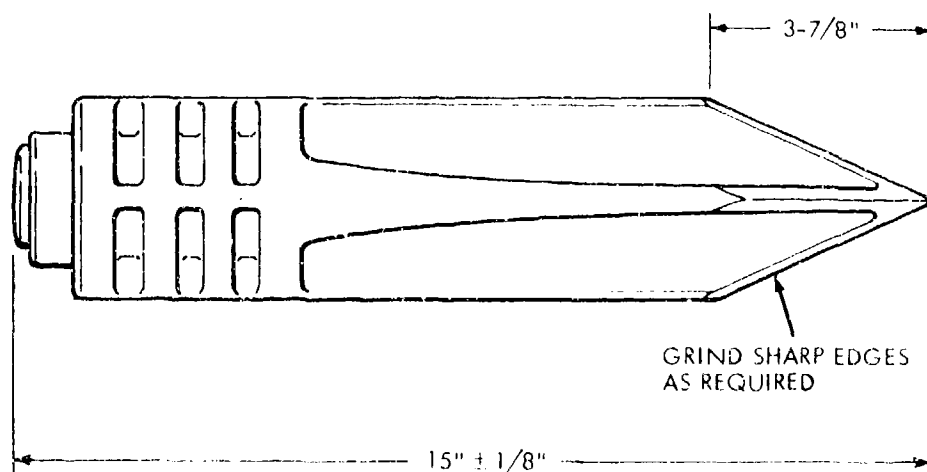

Figure 4-11. Modified (short) stake.
(1) To resolve the problem, the US Army Armament Command tested a miniature-shaped charge, known as the jet tapper, for blasting holes in rocky or frozen ground. The hole facilitates the driving of special steel forged stakes which are also programmed for issue. The jet tapper is fired by means of a detonating cord strung through a traverse hole on the charges. There are no fragmentation or pressure hazards to personnel and equipment 40 feet from the charge.
(2) There is little doubt that your immediate reaction, like that of many field artillerymen at the USAFAS, is skepticism. Questions like "Can a charge of this nature be detonated within a battery position?" or "What are the safety factors involved?" plus more questions concerning the jet tapper have been raised. The jet tapper has not been accepted by the field artillery community; however, feasibility tests and demonstrations will be conducted to determine if we, as field artillerymen, can live with such devices.
d. For those of you who are currently having M102 emplacement problems on frozen or rocky ground, Armament Command engineers have devised a method of cutting down the current 24-inch stakes (fig 4-11) to 15 inches. These modified stakes can generally withstand the driving force required to penetrate frozen or rocky ground, and because they are shorter, will require less emplacement time and depth penetration. This modification can be made at the organizational level. The only tools required are a hacksaw to cut and taper the stakes and a grinder or file to sharpen the edges as required.